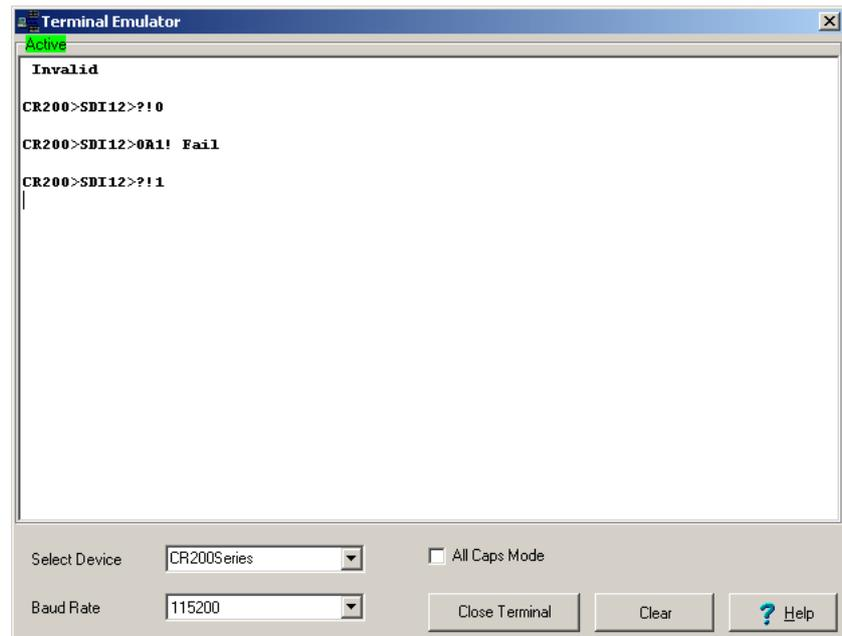

Figure 8-1. SDI-12 Transparent Mode for a CR200(X) used to change the SDI-12 address from 0 to 1
- Press the **Enter** key until the datalogger responds with the “CR200(X)>” prompt (Figure 8-1).